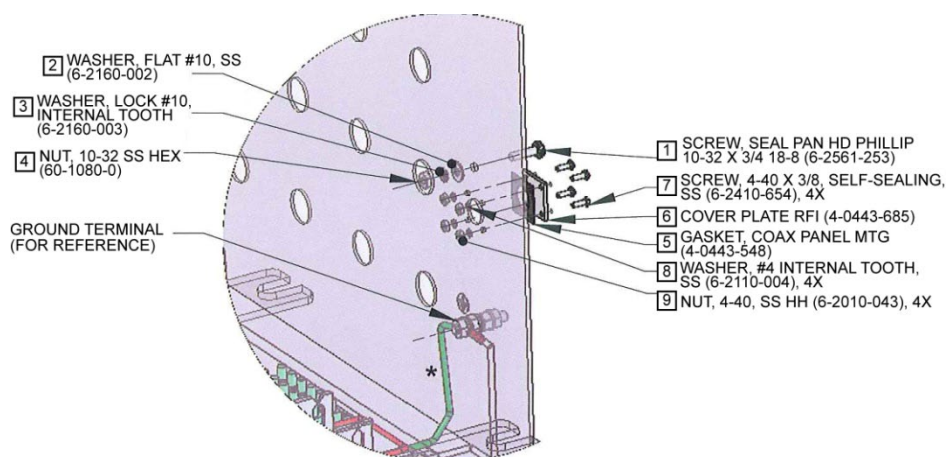

Figure 4-9. Installing the cover plate RFI
2. Install the cover plate RFI. The item numbers referenced are shown in Figure 4-9.
- a. From the exterior of the enclosure, insert the screw (item 1), and fasten it with the washers and nut (items 2, 3, and 4).
- b. Locate the holes for the cover plate RFI (item 6).
- c. On the exterior of the enclosure, align the mounting gasket and cover plate RFI (items 5 and 6) with the holes.
- d. Insert a screw (item 7) through each corner of the gasket and cover plate into the enclosure.
- e. From the interior of the enclosure, fasten with a washer and nut (items 8 and 9).